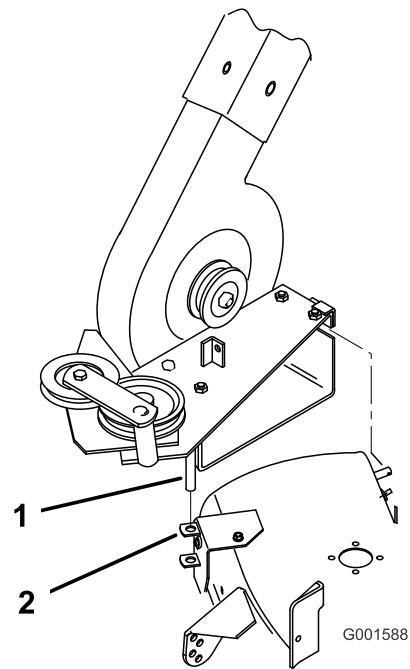

Figure 7
2. Install the blower by lowering the pivot pin into the pivot support (Figure 7).